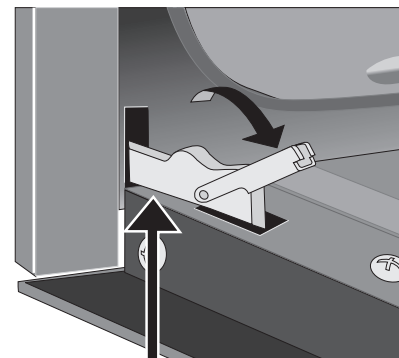

Figure 16: Unlocking door hinge
4. Pull the bottom of the door toward you while rotating the top of the door toward the appliance to completely disengage the hinge levers (Figure 16).
1. Firmly grasp both sides of oven door along the door sides. Do not use the oven door handle (Figure 16).
2. Hold the oven door at the same angle as the removal position. Carefully insert the hinge levers into the oven frame until you feel the hinge levers are seated into the hinge notches. The hinge arms must be fully seated into the hinge notches before the oven door can be fully opened. (Figure 16).